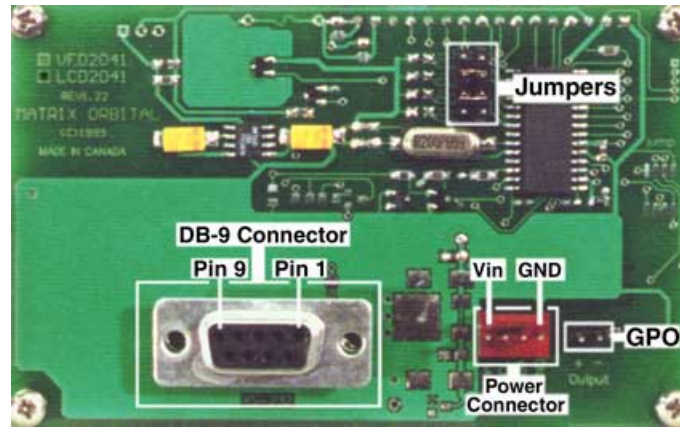

Figure 2-1 Electrical Connections
1. Refer to the diagram above and Figure 2-1 for the following steps.
Power is applied via pins 1 and 4 as shown in Figure 2-1. Power requirement for standard units is +5 VDC  $\pm$ 0.25V (units with the wide voltage range option require 8 – 15 VDC). Power may also be supplied via the RS-232 connector as described in section 2.2.2.